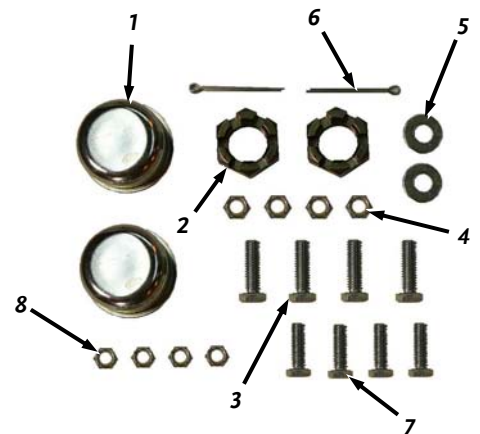

Figure 51
- Hardware Package (Table below and **Figure 51**)